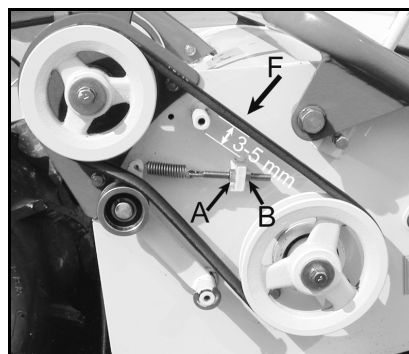

Figure 21
- Push the belt with a finger on (F, Figure 21) the belt must move from 3 to 5 mm. If the belt does not move accordingly, adjust with screws A & B.